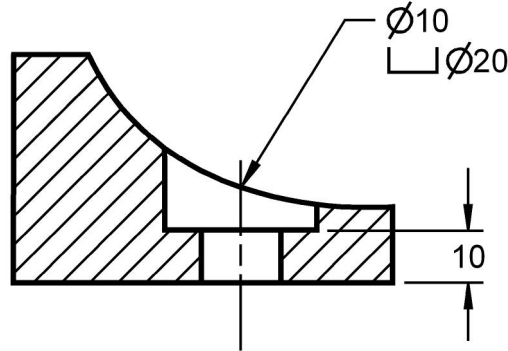

Figure 2-16: Spotfaced holes.
- h) Spotfaced holes are similar to counterbored holes. The difference is that the machining operation occurs on a curved surface. Therefore, the depth of the counterbore drill can not be given in the note. It must be specified in the rectangular view as shown in Figure 2-16.